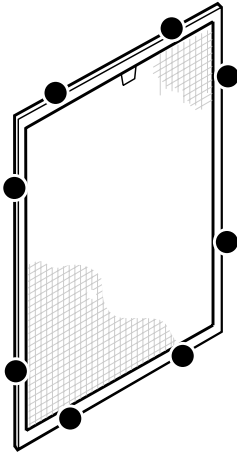

Figure 6-5.Clip locations
6. Remove the tape and slide the clips to the 1/4 points along each side of the screen, as shown in figure 6-5. If three clips are installed per side, place the third at the mid-point. Your installation is complete.